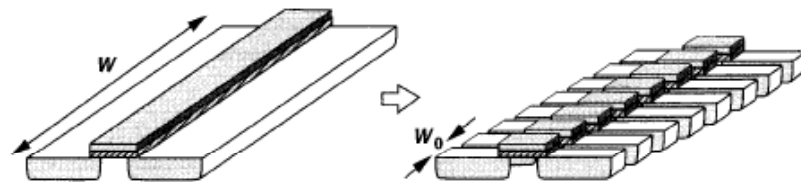

Figure 13.19 Wide MOSFET viewed as a parallel combination of narrow devices.
- Fig. 13.19: Each transistor having a width  $W_0$ , with an equivalent length as  $L_{eq} \approx (L_1 + L_2 + \dots + L_n)/n$ .